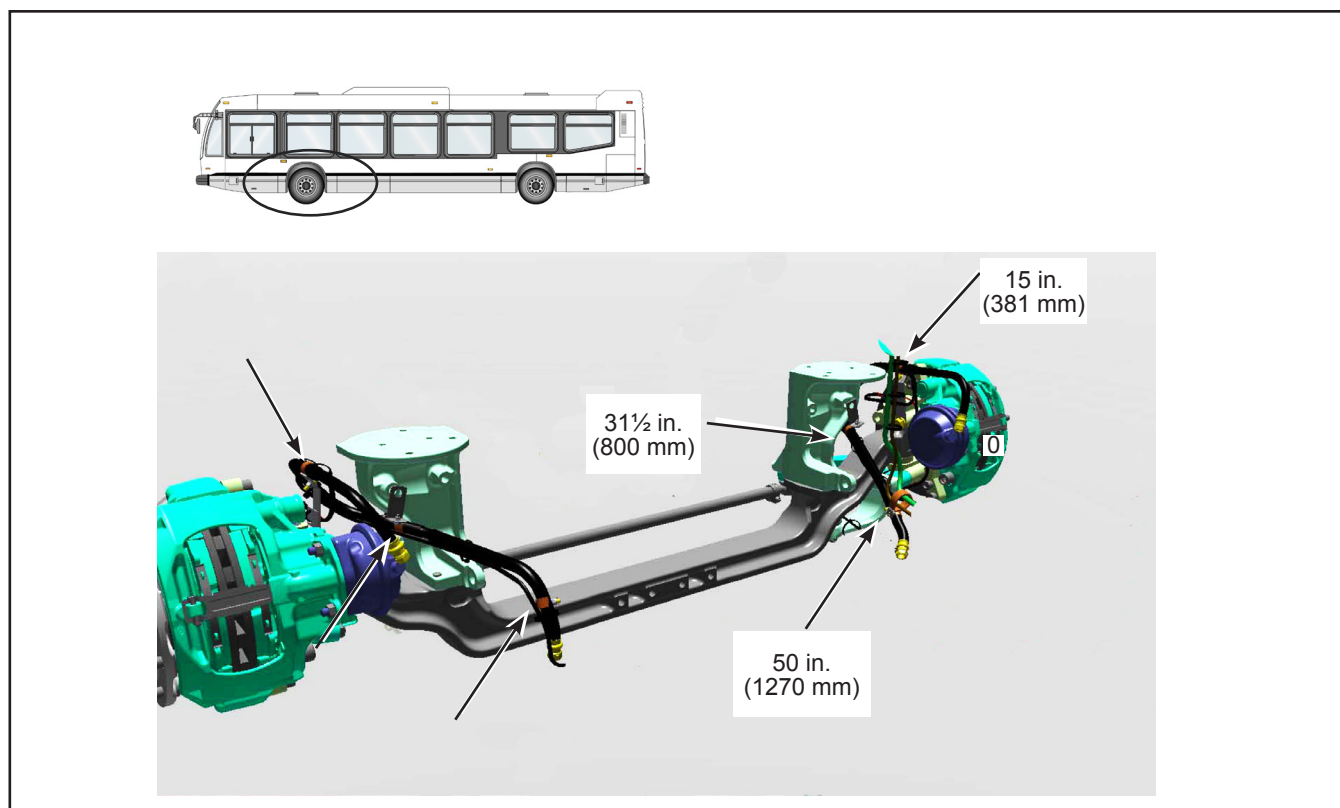

Figure 1 - Front Axle P-Clamp Location
- 1.1.2. Verify that P-clamps are installed at the locations specified this document. See Figures 1 to 5.
2.2. Locate the six P-clamps to replace on the front axle. See Figure 1.